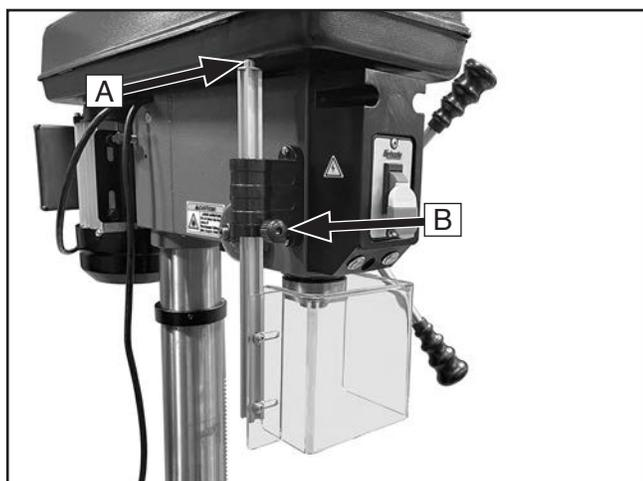

Figure 17. Chip guard attached to chip guard rail.
- Remove Phillips head screw and flat washer (see **A** in **Figure 17**) from chip guard rail.
- Loosen chip guard lock knob (see **B** in **Figure 17**), insert chip guard rail through bottom of mount on side of headstock, then tighten lock knob to secure.